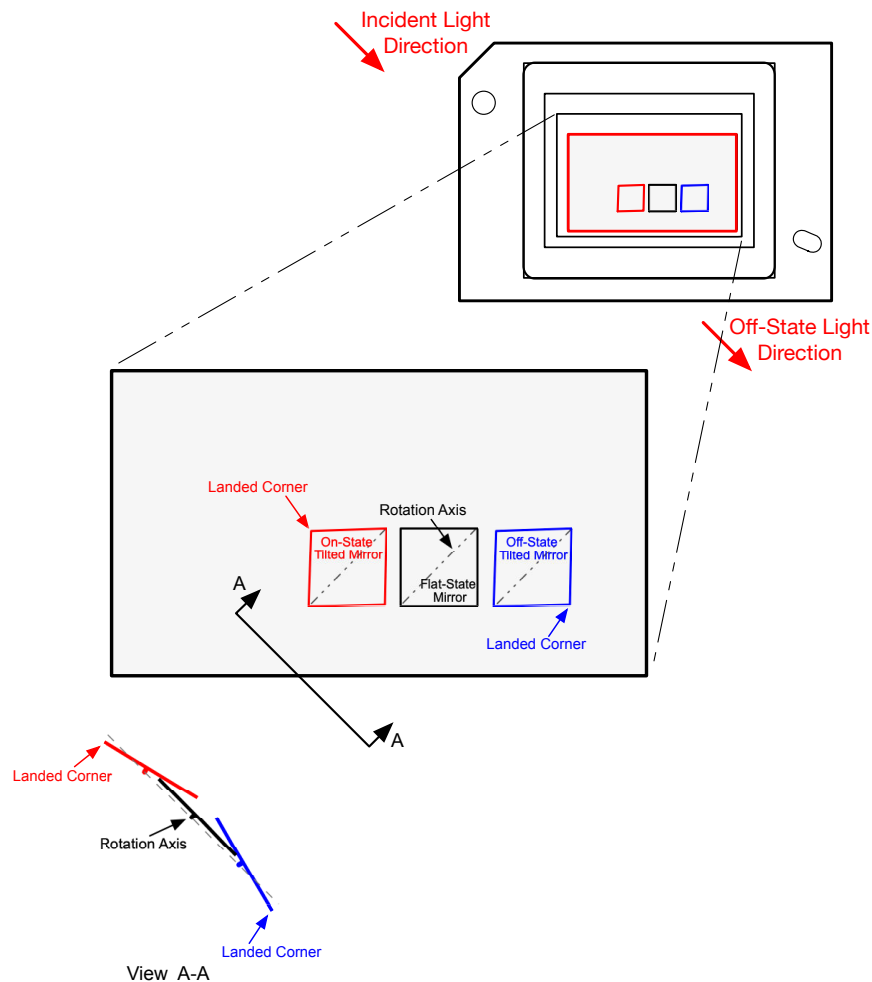

图 6-16. Micromirror Landed Orientation and Tilt
- (1) Measured relative to the plane formed by the overall micromirror array.
- (2) Represents the landed tilt angle variation relative to the nominal landed tilt angle.
- (3) Represents the variation that can occur between any two individual micromirrors, located on the same device or located on different devices.
- (4) For some applications, it is critical to account for the micromirror tilt angle variation in the overall system optical design. With some system optical designs, the micromirror tilt angle variation within a device may result in perceivable non-uniformities in the light field reflected from the micromirror array. With some system optical designs, the micromirror tilt angle variation between devices may result in colorimetry variations, system efficiency variations or system contrast variations.
- (5) When the micromirror array is landed (not parked), the tilt direction of each individual micromirror is dictated by the binary contents of the CMOS memory cell associated with each individual micromirror. A binary value of 1 results in a micromirror landing in the ON State direction. A binary value of 0 results in a micromirror landing in the OFF State direction, see Figure 6-16.
- (6) The time required for a micromirror to nominally transition from one landed state to the opposite landed state.
- (7) The minimum time between successive transitions of a micromirror.
- (8) Conditions of Acceptance: All DMD image performance returns will be evaluated using the following projected image test conditions:
- (9) Bright pixel definition: A single pixel or mirror that is stuck in the ON position and is visibly brighter than the surrounding pixels